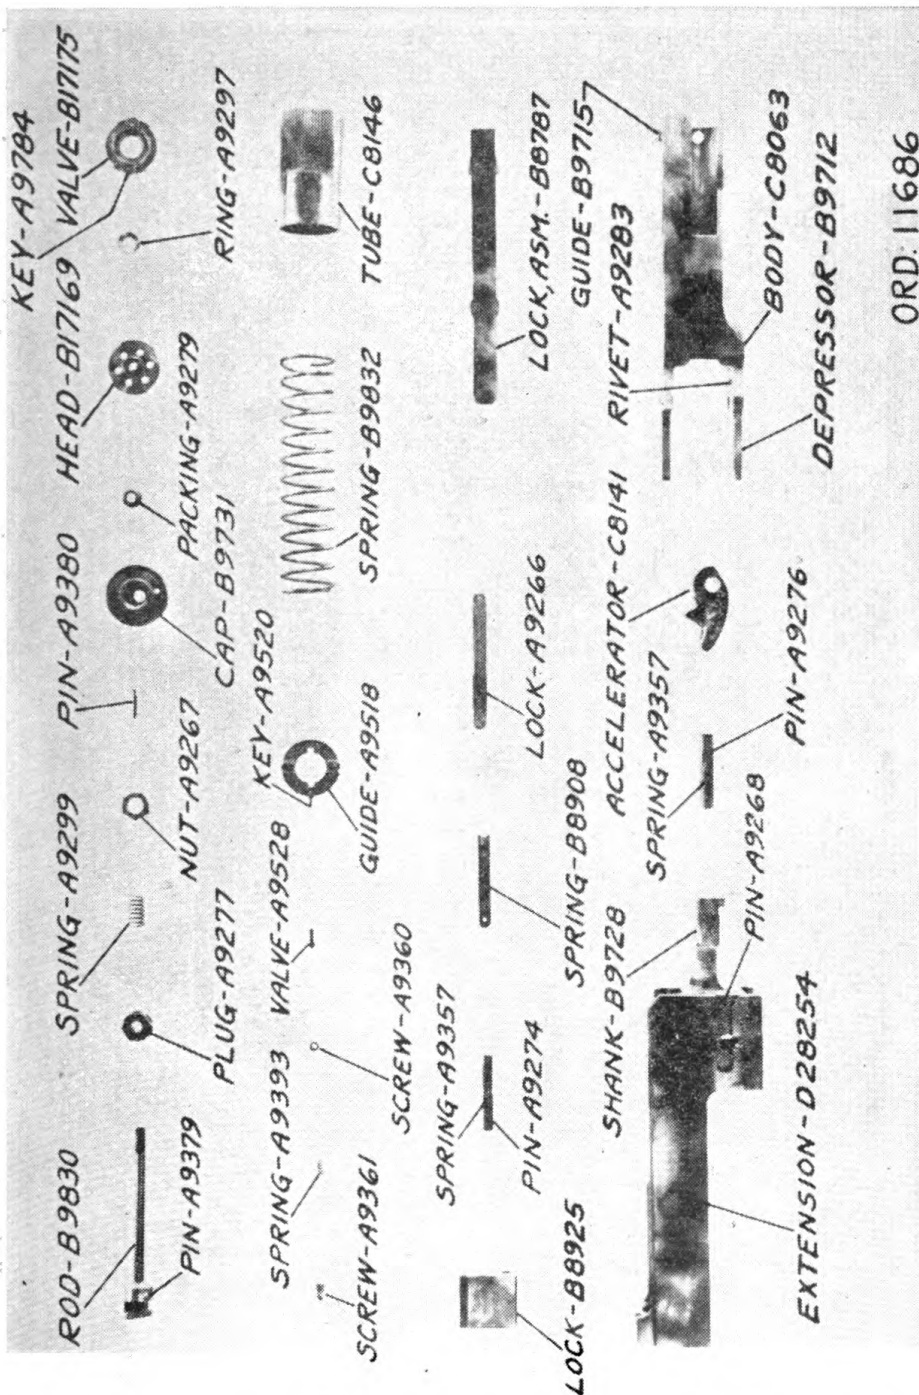

FIGURE 4.—Oil buffer group.
(6) Depress sear and remove sear slide. Pull out sear and sear spring.
(7) By holding the bolt with the front end slightly elevated, the firing pin extension and firing pin will drop out. The firing pin spring can be removed from the firing pin extension by driving out the firing pin spring stop pin. Take precautions to prevent firing pin spring from flying out during the operation. This should not be done unless it is necessary to replace the firing pin spring.
(8) The driving spring and the driving spring rod collar can be removed from the driving spring rod assembly by driving out the driving spring rod collar stop pin from the driving spring rod. This should not be done unless it is necessary to replace the driving spring.
b. Oil buffer group (fig. 4).—(1) Remove oil buffer, barrel extension, and barrel assembly from gun. Detach oil buffer from barrel extension by pressing accelerator forward.
(2) Remove oil buffer body spring lock by pulling it to the rear.
(3) Hold oil buffer body, bottom up, in the left hand with the index finger between depressors and prongs of accelerator. With the point of a cartridge, press stud on end of oil buffer tube lock spring to disengage it from its hole in oil buffer tube body. At the same time, raise accelerator upward and rotate to the rear. Remove oil buffer tube lock spring.
(4) Drive out accelerator pin and remove accelerator.
(5) The oil buffer tube assembly should not be disassembled unless absolutely necessary to replace the oil buffer spring. To disassemble, depress oil buffer spring guide sufficiently to clear oil buffer piston rod pin; turn oil buffer spring guide until oil buffer piston rod pin will pass through slots in the guide. Remove guide and spring.